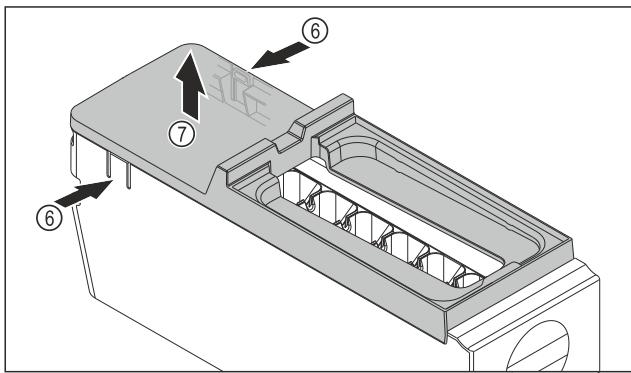

Fig. 87
- ▶ Removing the EasyTwist-Ice body cover: Push the tabs Fig. 87 (6) on both sides of the EasyTwist-Ice body with one hand.
- ▶ Use the other hand to remove the cover Fig. 87 (7) upwards.